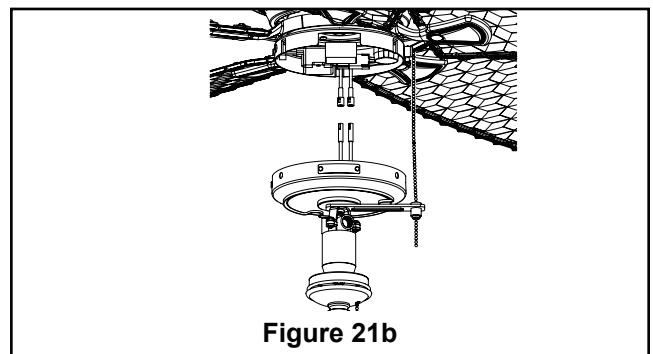

Figure 21b
- 3b. <<FP8011OB ONLY>> Connect the 2-pin connector from the switch cup housing light fitter to the 2-pin connector from the motor assembly. (Figure 21b)